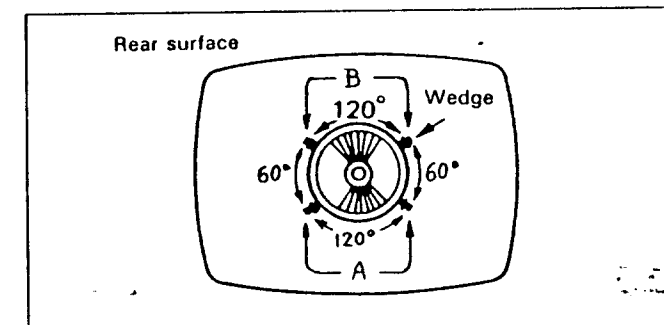

Fig. 6
4. Repeating 2 and 3, fix the position of the deflecting yoke with wedges so as to produce the best condition for the convergence of points L, R, T and B, on the screen. Removable paper of the double-sided adhesive tape on the wedges should be removed first, and as Fig. 6 shows, inserting the wedges in order of A and B.